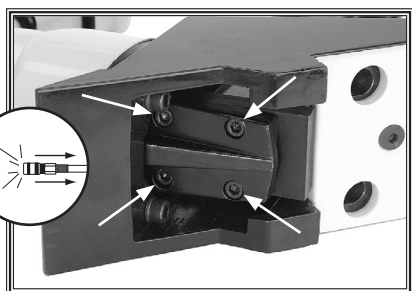

Figure 4. Location of cap screws securing the magazine to the nailer.
4. Use the 4mm hex wrench and remove the four cap screws and lock washers that secure the magazine to the nailer (see **Figure 4**).
3. Use the 4mm hex wrench and remove the four cap screws and lock washers that secure the magazine to the nailer (see **Figure 4**).